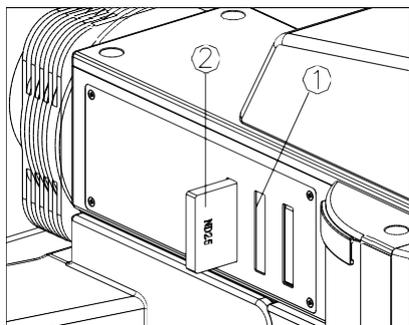

Fig. 17
According to the requirements, two groups of ND filter with different transmittance, as ND25 and ND50, can be inserted into position ① and ②. Make the surface with identifications face to the observer, and the ND filter comes into the light path when a sound of “DiDa” is heard. (See Fig. 17)